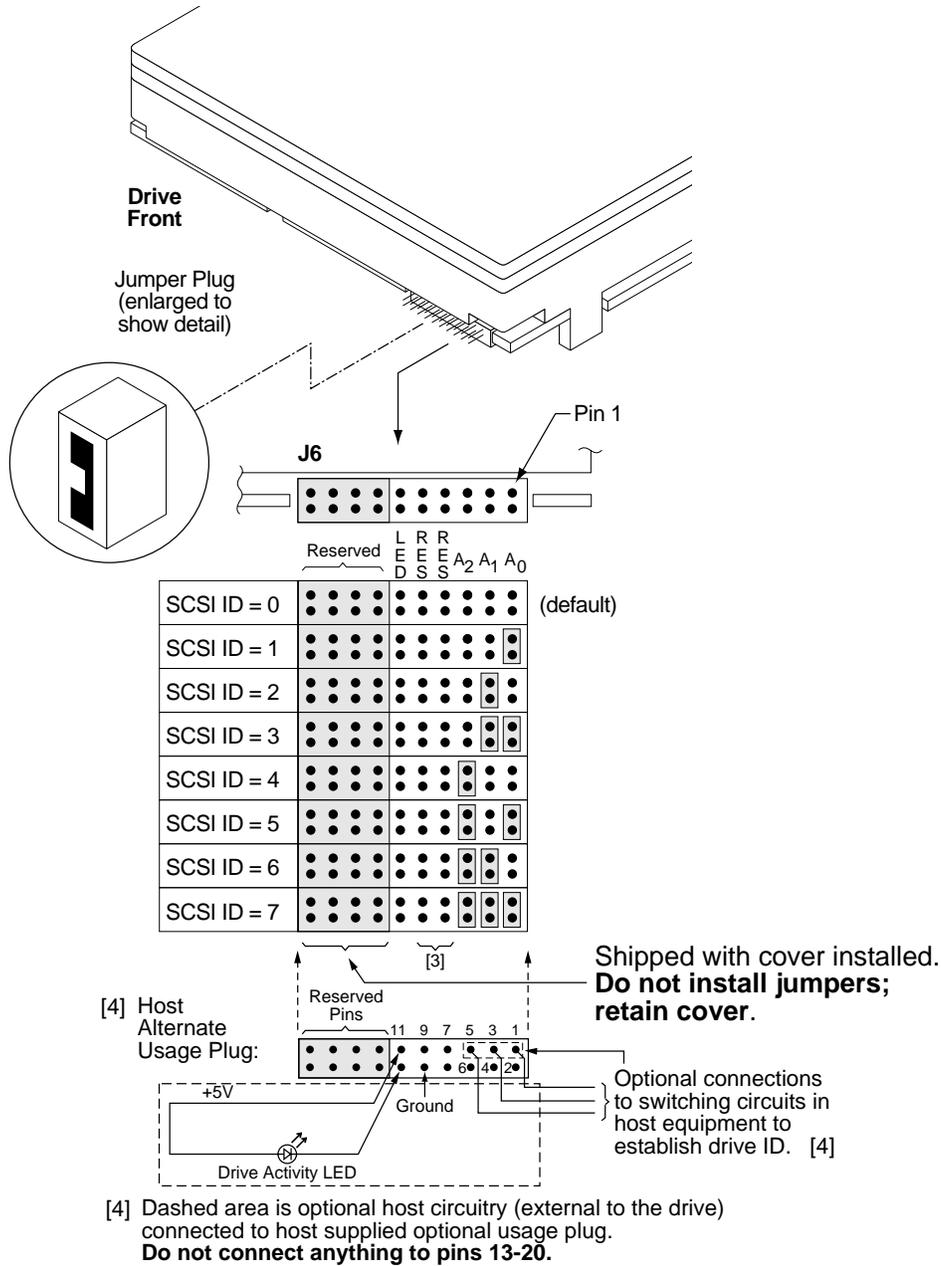
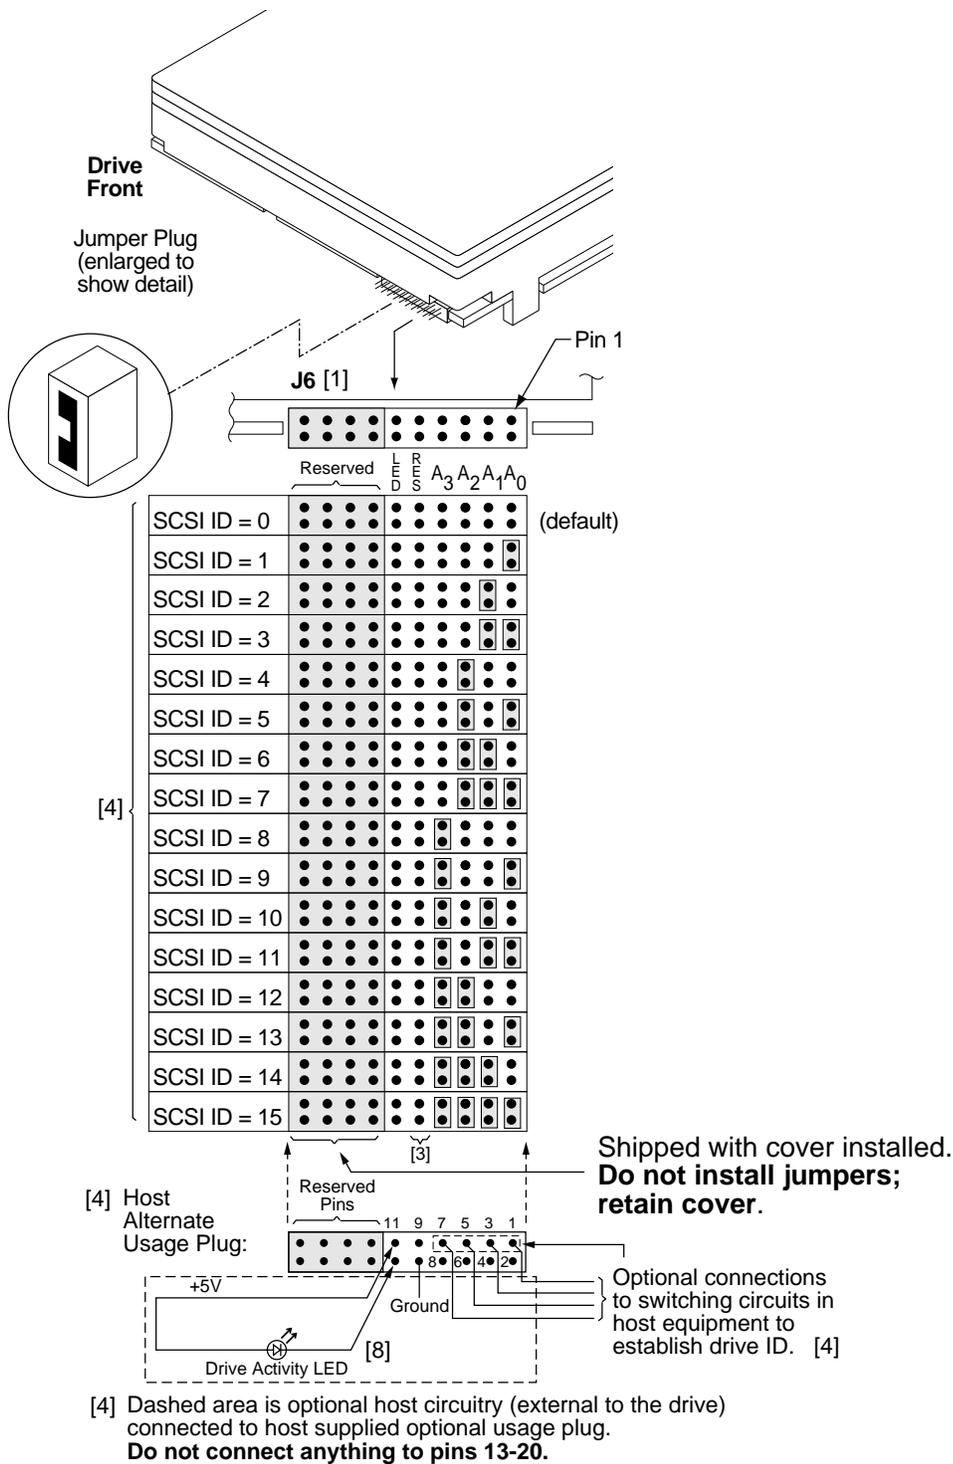
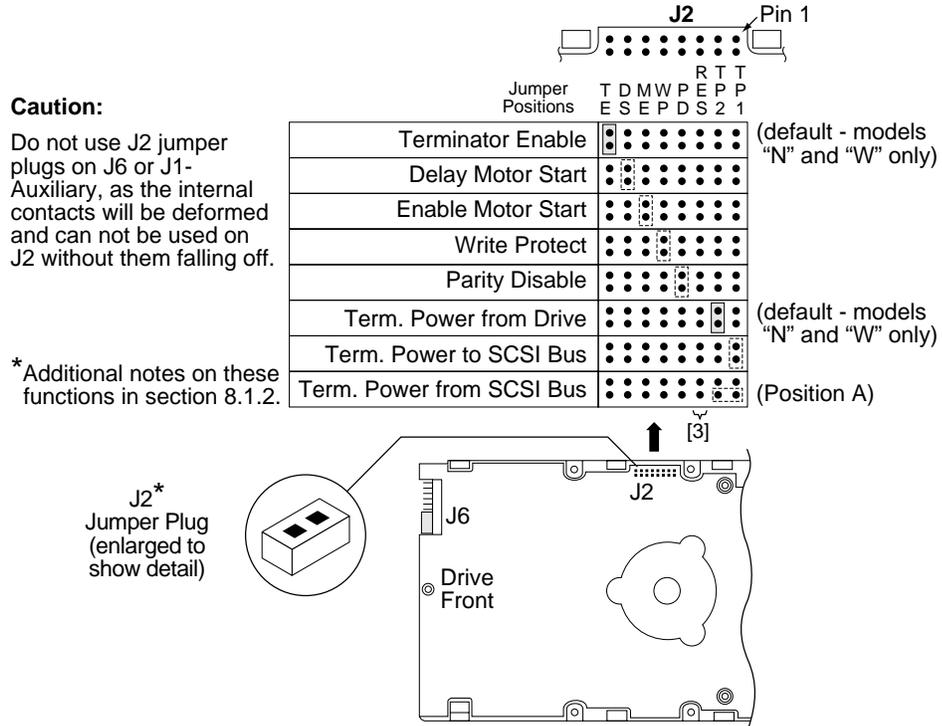

Figure 9. Barracuda 4XL family drive ID select header for models “N”
Figure 10. Barracuda 4XL family drive ID select for models “W,” “WC,” “WD,” and “DC”
Figure 12. Barracuda 4XL family drive option select header for models "N," "W," and "WD"
For option jumper locations and definitions refer to Figures 9, 10, 11, 12, and 13. Drive default mode parameters are not normally needed for installation. Refer to Section 9.3.2 for default mode parameters if they are needed.
Figures 9 through 11 show views of the drive ID select jumper connectors. Figure 12 shows the option select jumper connector for all models. Figure 10 shows a rear view of model drives for the purpose of showing J1-auxiliary of the drive. Both J1-auxiliary and J6 have pins for selecting drive ID and for connecting the remote LED cable. Only one or the other should be used, although using both at the same time would not damage the drive. The notes following the figures describe the functions of the various jumper positions on the connectors J2, J1-Auxiliary and J6. Suggested part number for the jumpers used on J2 is Molex 52747-0211(Seagate P/N 77679052). Suggested part number for the jumpers used on J1-Auxiliary and J6 are Method Electronics 861M-202-70 (Seagate part number 15481851). A bag with the two jumper plug types is shipped with standard OEM drives.
Notes for Figures 9 through 13 are in Section 8.1.1.
8.1.1 Notes for Figures 9, 10, 11, 12, and 13.
*See Figure 12 for pins used for Termpower.